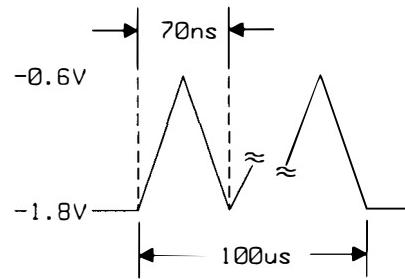

Figure 10.3-14. Width Generator ramp signal
3. Check the ramp signal at pin 20 of U240 against Figure 10.3-14.